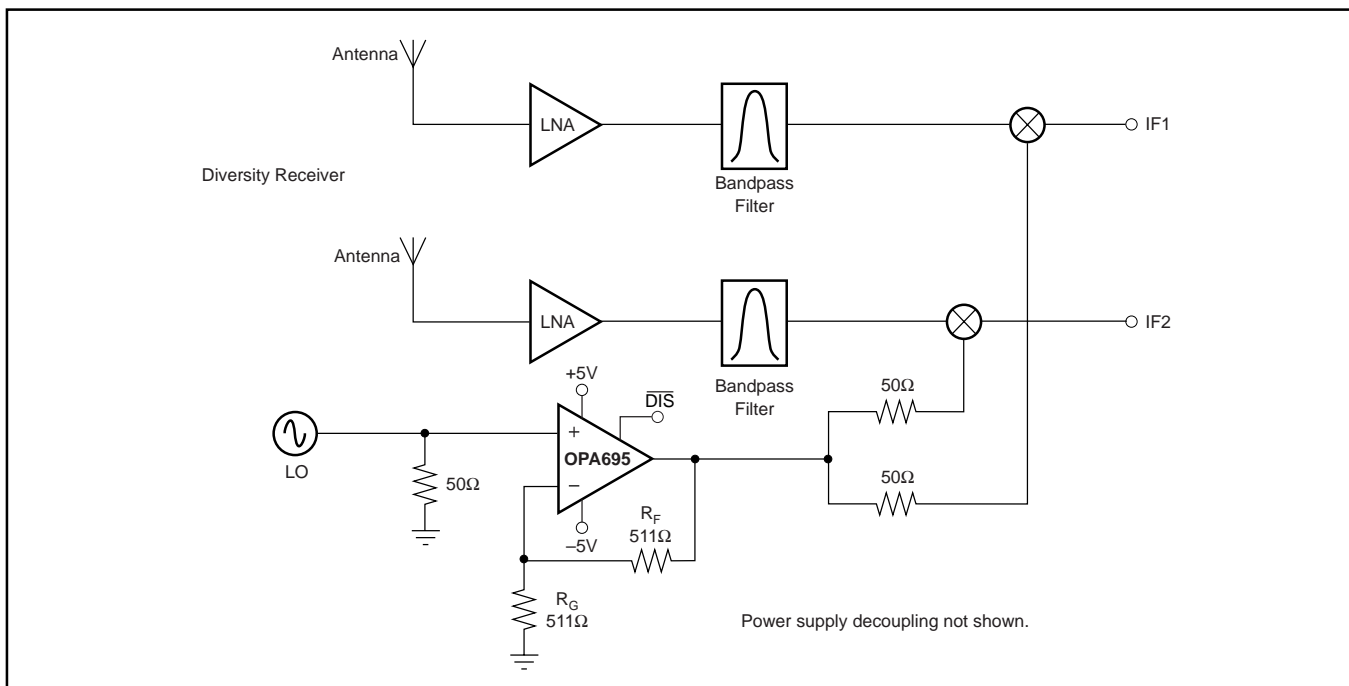

FIGURE 8. Dual Output LO Buffer.
The OPA695 may also be used to buffer the Local Oscillator (LO) from the mixer(s). Operating at a voltage gain of  $+2$ , the OPA695 will provide almost perfect load isolation for the LO with a net gain of 0dB to the mixer. Applications through 1.4GHz LOs may be considered, but best operation would be for LOs  $< 1.0\text{GHz}$  at a gain of  $+2$ . Gain could also be easily provided by the OPA695 to drive higher power levels into the mixer. One unique option in using the OPA695 as an LO buffer is shown in Figure 8. Since the OPA695 can drive multiple output loads, two identical LO signals may be delivered to the mixers in a diversity receiver simply by tapping the output off through two series 50Ω output resistors. This circuit is set up for a voltage gain of  $+2V/V$  to the output pin for a gain of  $+1V/V$  (0dB) to the mixers, but could easily be adjusted to deliver higher gains as well.